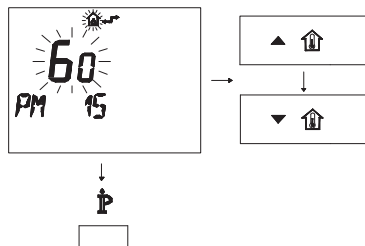

Fig. 7.13
- Modify the programmed SET by acting on buttons or until a **setting of 60** is displayed, wait for the number programmed to flash (Fig. 7.13)